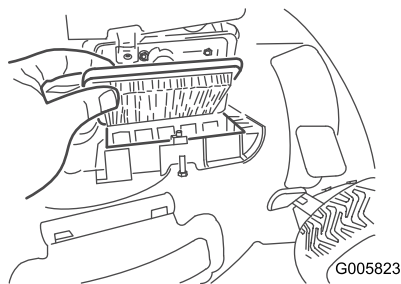

Figure 20
- Replace the air filter (Figure 20).